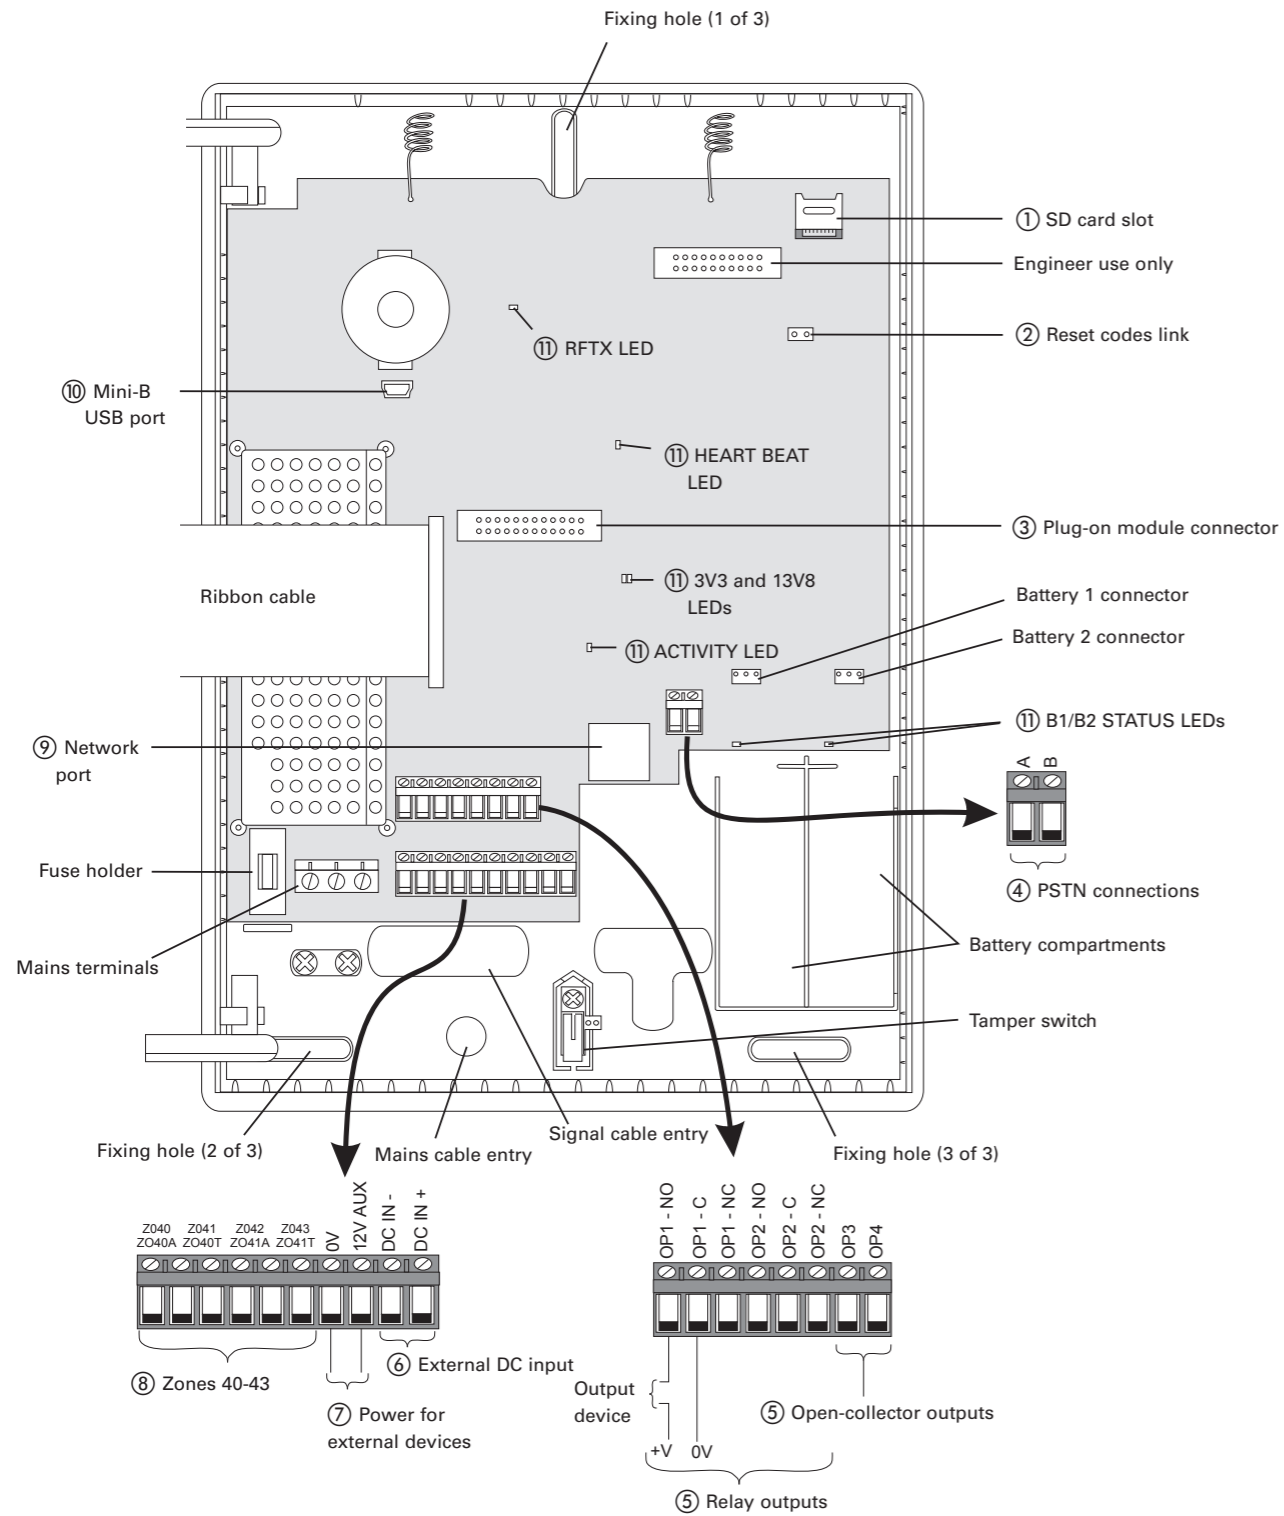

Figure 2. Control unit PCB
- Cables must enter the control unit using the dedicated cable-entry holes (Figure 2).
Mount the control unit using at least three fixing holes (Figure 2) and minimum 36mm long No8/4mm screws.
Make sure all power is disconnected, then connect any wired detectors or output devices you may be using (Figure 2).
Fit the supplied battery(ies) into the battery compartment(s) and connect them to the battery connector(s) on the PCB (Figure 2).
The following sections provide information about the links, connectors and LEDs shown in Figure 2.